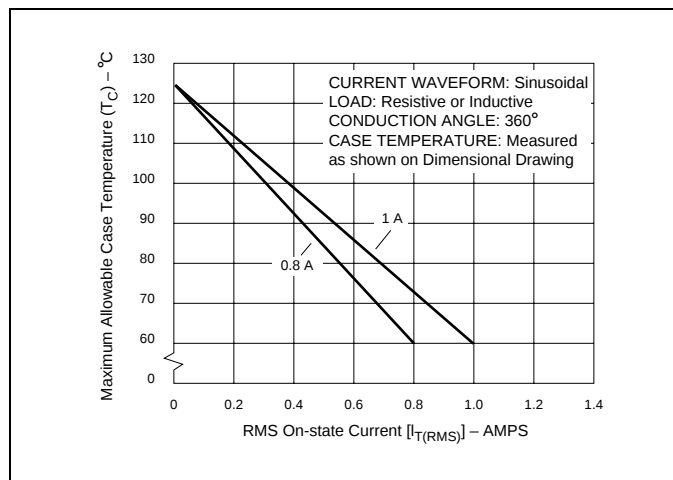
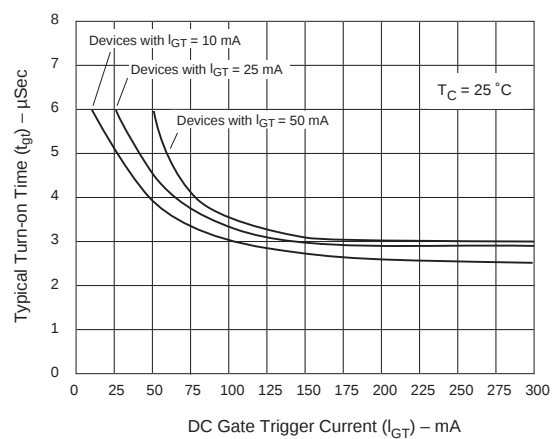

Figure E2.1 Maximum Allowable Case Temperature versus On-state Current (0.8 A and 1 A)
Figure E2.15 Turn-on Time versus Gate Trigger Current (Typical)
- (1) For either polarity of MT2 with reference to MT1 terminal
- (2) For either polarity of gate voltage (V_{GT}) with reference to MT1 terminal
- (3) See Gate Characteristics and Definition of Quadrants.
- (4) See Figure E2.1 through Figure E2.7 for current rating at specific operating temperature.
- (10) See Figure E2.15 for t_{gt} versus I_{GT} .
- (11) See package outlines for lead form configurations. When ordering special lead forming, add type number as suffix to part number.
- (12) Initial on-state current = 200 mA dc for 0.8 A to 10 A devices, 400 mA dc for 15 A to 35 A devices
- (13) See Figure E2.1 through Figure E2.6 for maximum allowable case temperature at maximum rated current.
- (14) Pulse width $\leq 10 \mu s$; $I_{GT} \leq I_{GTM}$
(18) Quadrants I, II, III only
(19) Minimum non-trigger V_{GT} at 125 °C is 0.2 V for all except 50 mA MAX QIV devices which are 0.2 V at 110 °C.